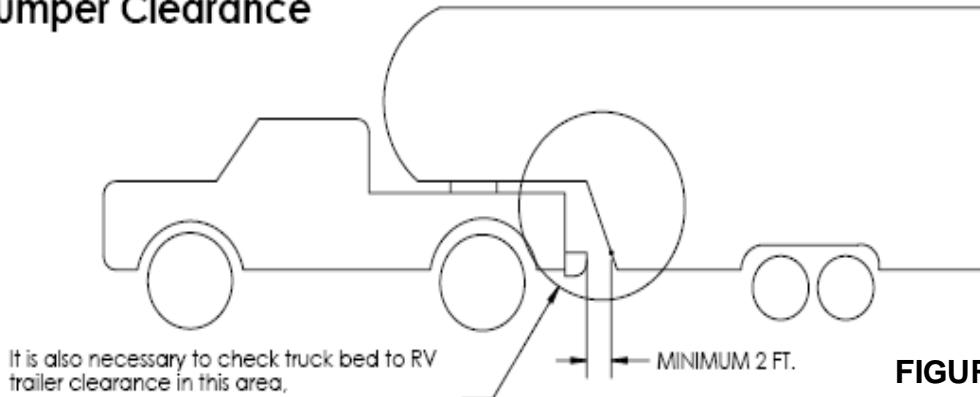

FIGURE 4
4. A minimum clearance between the bumper and trailer (Measured at the same height) of 2 ft. is recommended (Figure 4).